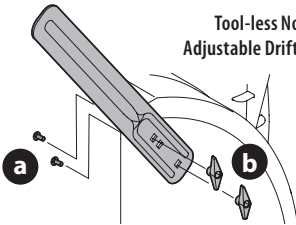

Figure 38
1. Remove two carriage bolts (a) and wing knob (b) that secure each drift cutter, and remove them from the sides of auger housing (Figure 38).
2. Turn the drift cutters around and position them as shown in Figure 38 to the outside of the auger housing.